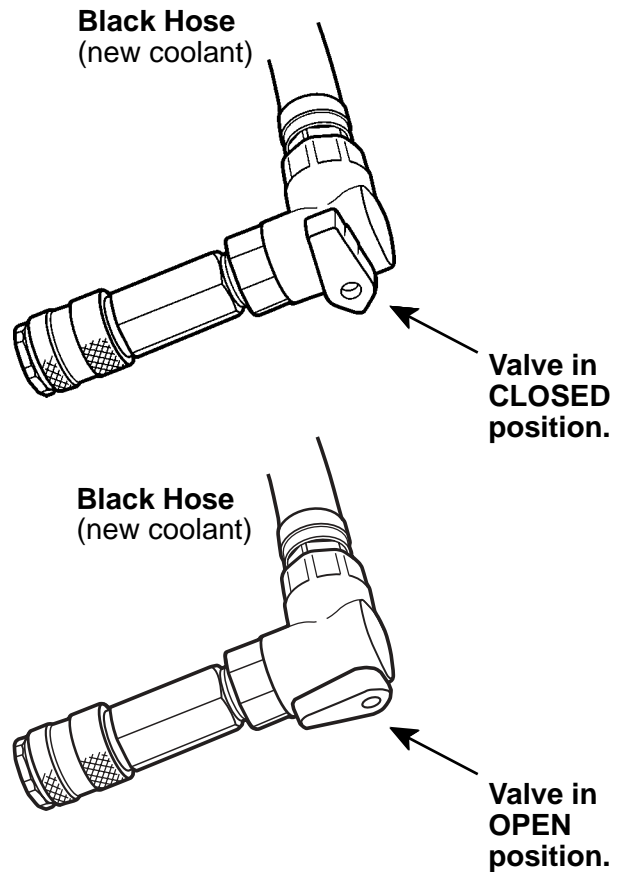

Figure 11
5. Close the valve on the end of the black hose (new coolant). See Figure 11.